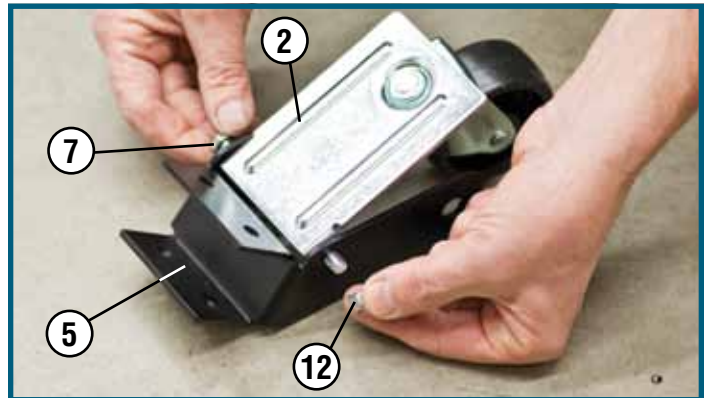

Fig. 8
1. Attach the Caster Assembly (2) with a 5/16"-18 x 4" Hex Head Screw (7) and 5/16"-18 Lock Nut (12) to the Pivot Bracket (5). **Fig. 8.**